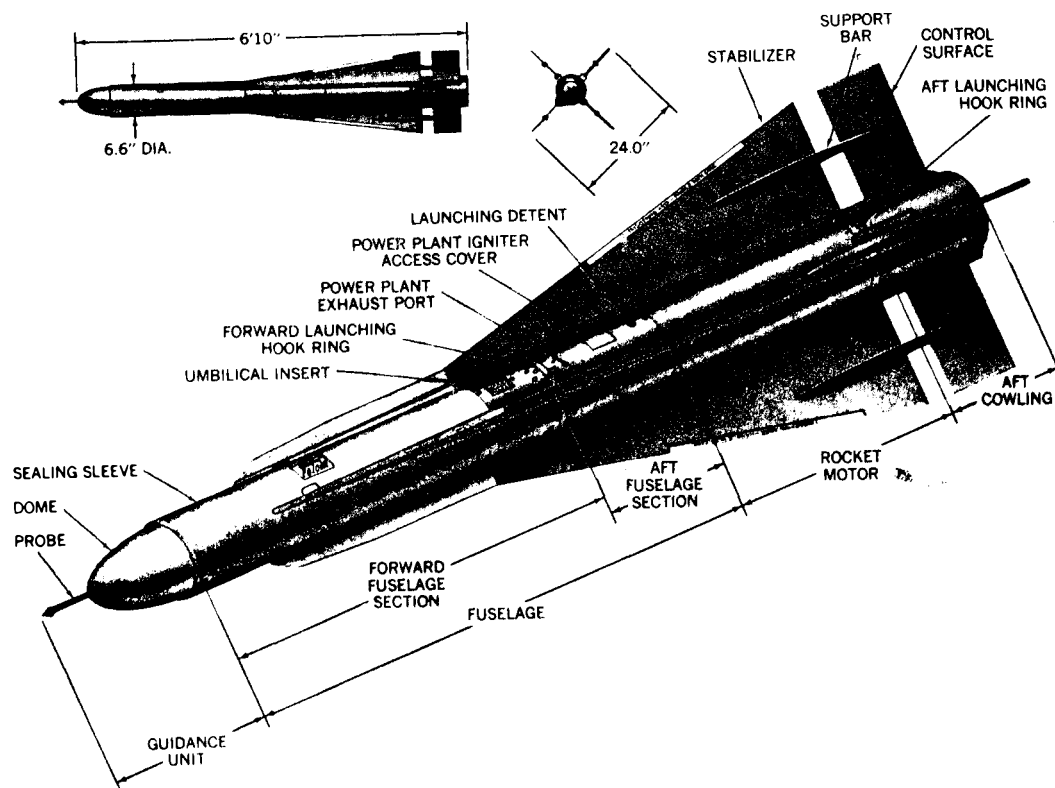

Figure 5-28. Dimensional characteristics and external appearance of the AIM-4F
- h. AIM-4F: White fiberglass dome (may or may not have an arrow-shaped metal probe) (reference figure 5-28).